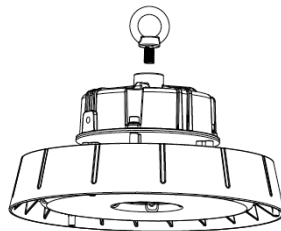

Figure 1
1. Screw the hook into the fixture, tighten and fix it. (figure 1)